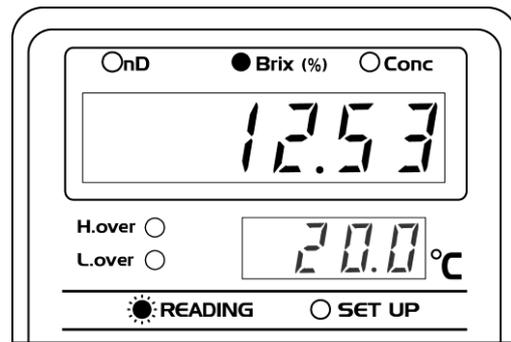

Fig. 10-4
① During measurement, the READING light blinks, and the display will show Brix (%) readings (Fig. 10-4).